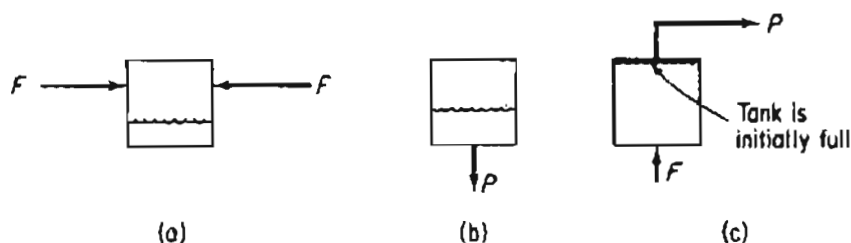

Figure P6.16
***6.16** Examine the processes in Figure P6.16. Each box represents a system. For each, state whether: